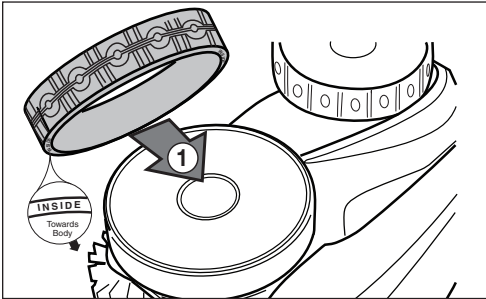

Figure 31. Tyre Replacement Orientation
3. To replace the tyre, position the tyre on the wheel making sure to orient the tyre so that the word **INSIDE** is toward the body of the cleaner. See *Figure 31*.